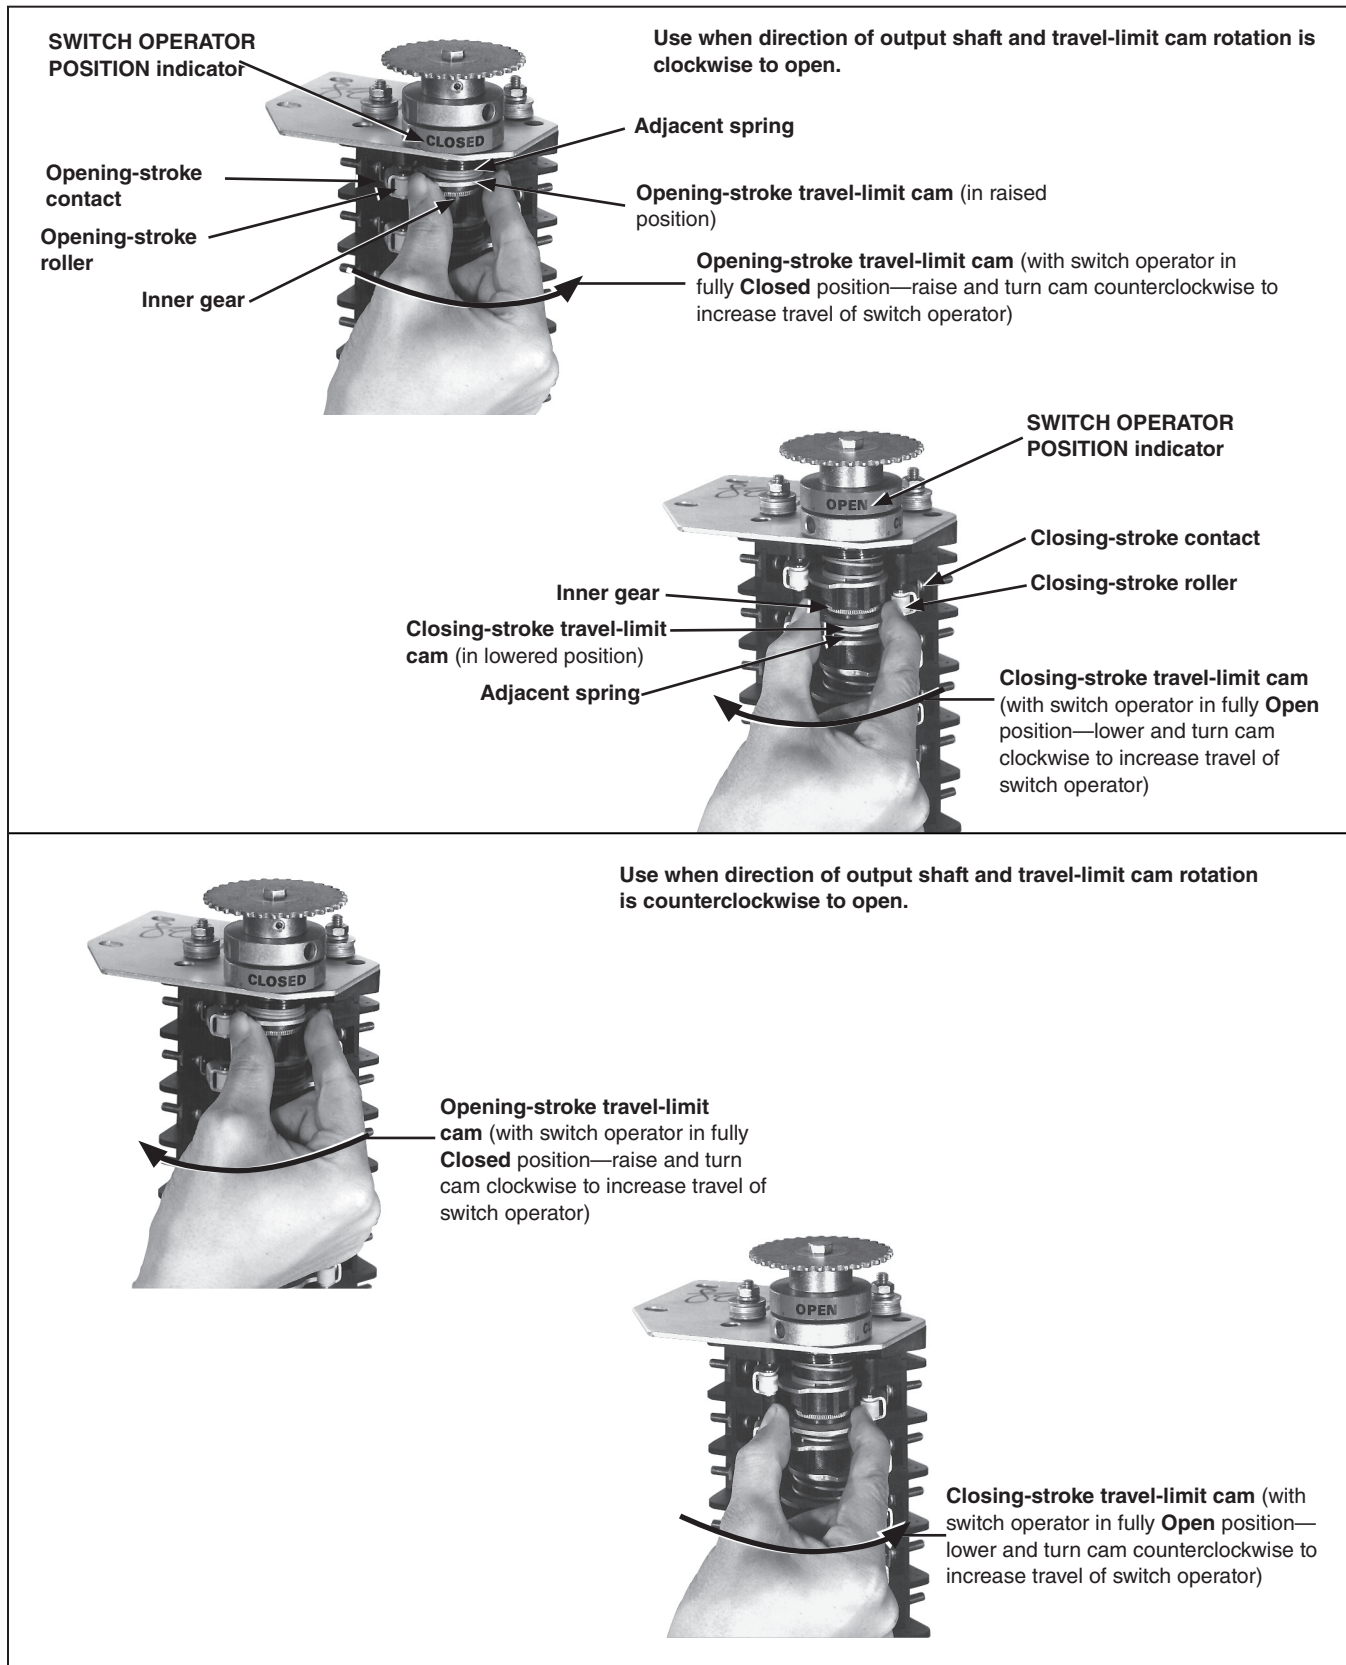

Figure 12. Adjustment of the travel-limit cams.
The travel-limit switch (coupled to the motor), which governs the extent of output-shaft rotation in the opening and closing directions, includes two contacts operated by cam-actuated rollers. See Figure 12 on page 20. The cams (upper one is the opening-stroke travel-limit cam, and the one immediately below it is the closing-stroke travel-limit cam) are individually adjustable in 4.5-degree increments.
- Rotate the cam to advance or delay engagement with its roller. See Figure 12 on page 20. Advance the cam to decrease travel. Delay the cam to increase travel.
Full opening and closing travel likely will not have been attained. This is because the travel-limit cams were adjusted to limit the extent of output-shaft rotation while the switch operator was in the **Decoupled** position—i.e., in a no-load condition. To attain full stop positions (and over-toggle positions, where applicable) of the Alduti-Rupter Switch, refer to Figure 12 on page 20 adjust the opening- and closing-stroke travel-limit cams.